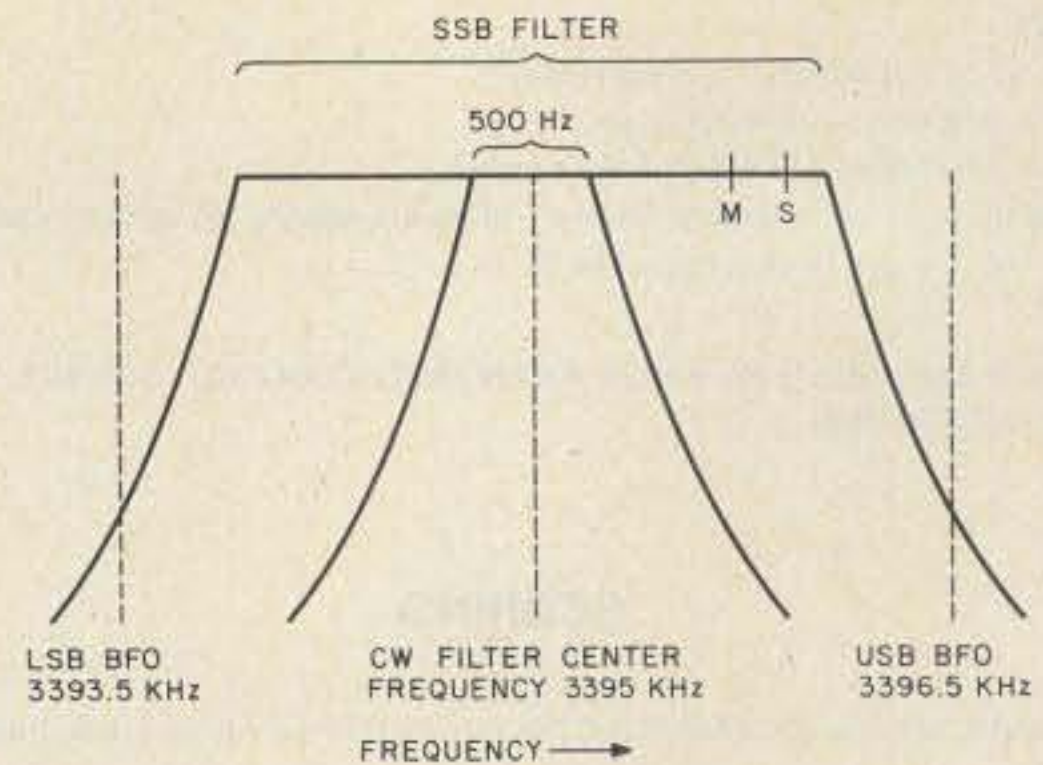
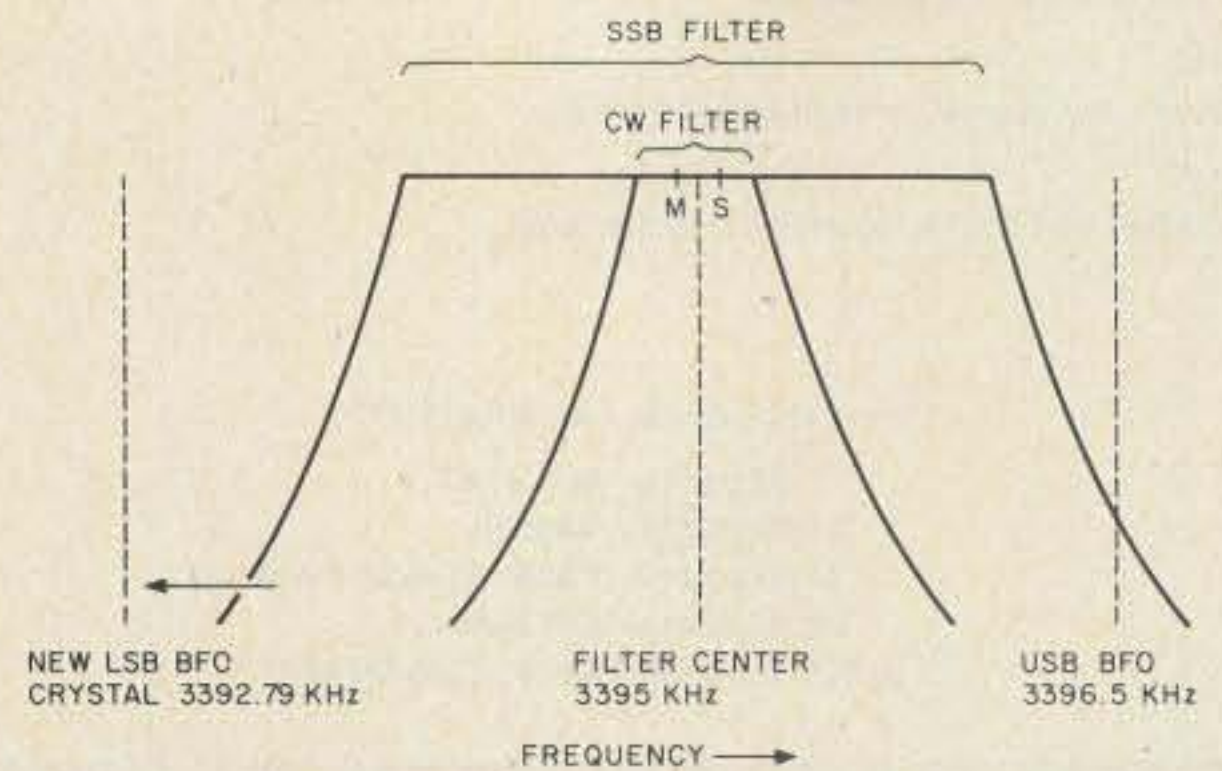

Fig. 1.
Fig. 2.
**MODIFICATION TO THE KENWOOD TS-520S FOR AFSK:** Fig. 1 shows the passband of the Kenwood TS-520S. By installing a crystal with a frequency of 3392790 Hz, the RTTY tones of 2125/2295 Hz will be right in the middle of the filters' respective passbands. See Fig. 2.